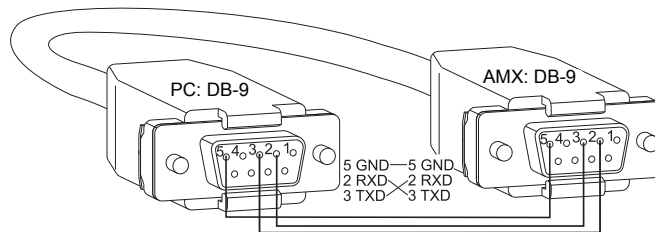

FIG. 58 RS-232 pinout
1. Attach a null modem serial cable without hardware flow control to the serial port (DB-9) on the Epica DGX 16 or 32. Use a serial cable that matches the pin diagram in FIG. 58 for RS-232. AMX equipment uses pins 2, 3, and 5 only.